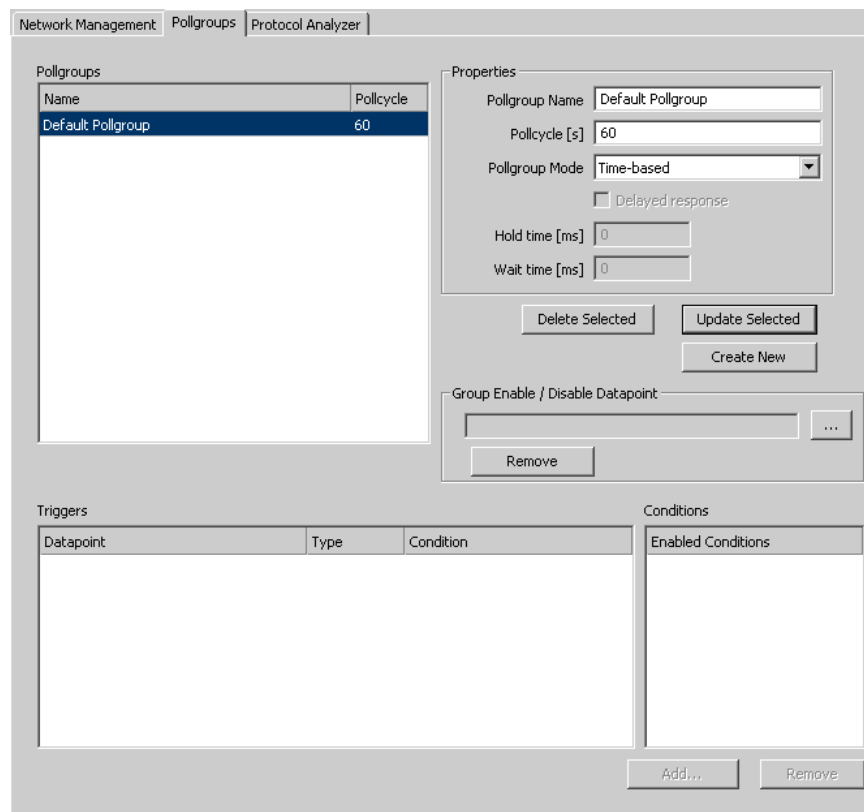

Figure 138: Pollgroup Management dialog.
2. Open the **Pollgroups** tab. This shows the dialog displayed in Figure 138.
2. In the **M-Bus Management** dialog, open the **Pollgroups** tab. This displays the poll groups management tab displayed in Figure 138.